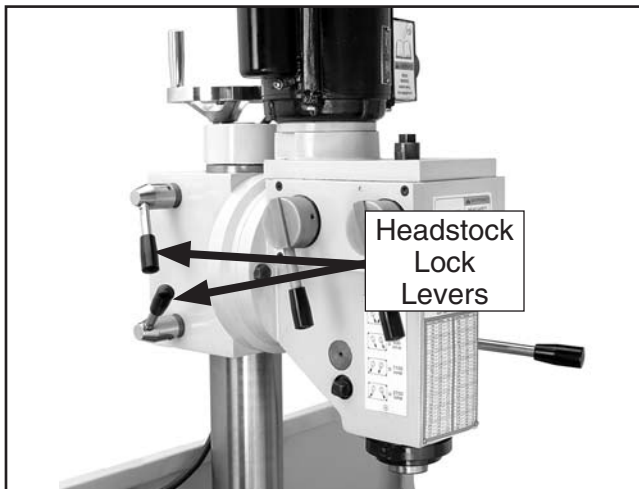

Figure 41. Headstock lock levers.
2. Loosen both column lock levers so that the headstock can freely slide on the column (**Figure 41**).
3. Rotate the mill height handwheel (**Figure 41**) to raise or lower the headstock to the desired position then lock the levers.